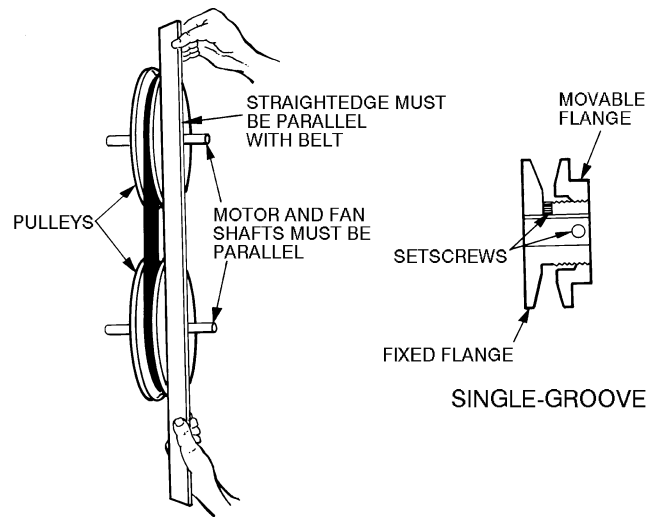

Fig. 41 — Evaporator-Fan Pulley Adjustment
3. Loosen movable pulley flange setscrew (see Fig. 41).